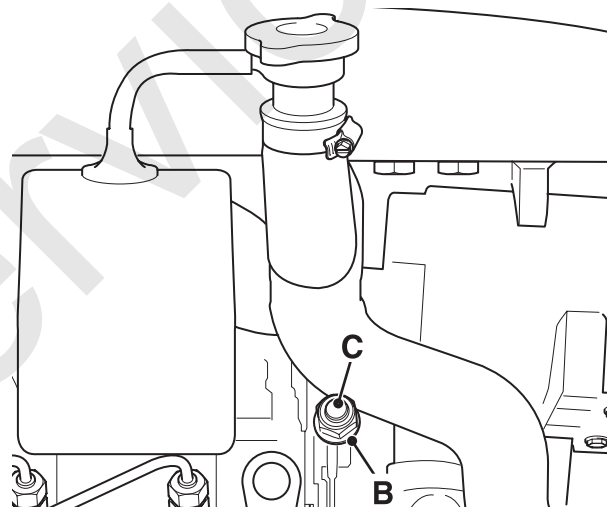

Fig 87.
- a Slacken lock nut **B**. → Fig 87. \(□ 229\).